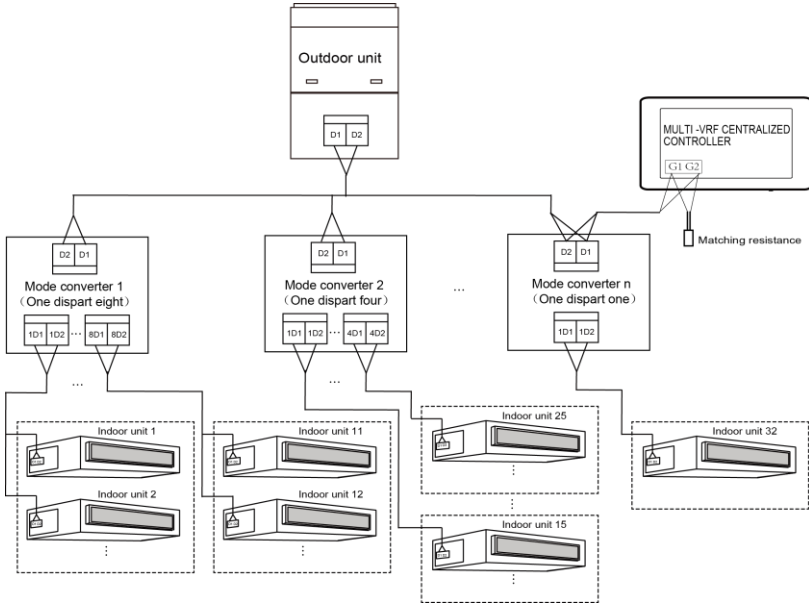

Fig. 1.6 Centralized Controller D1/D2 with Heat Recollection Mode Converter Network
- ⑤ If the centralized controller is to be connected with the network of heat recollection, connect according to Fig. 1.6. The method 2 is also applicable to centralized controller switching in heat recollection network.